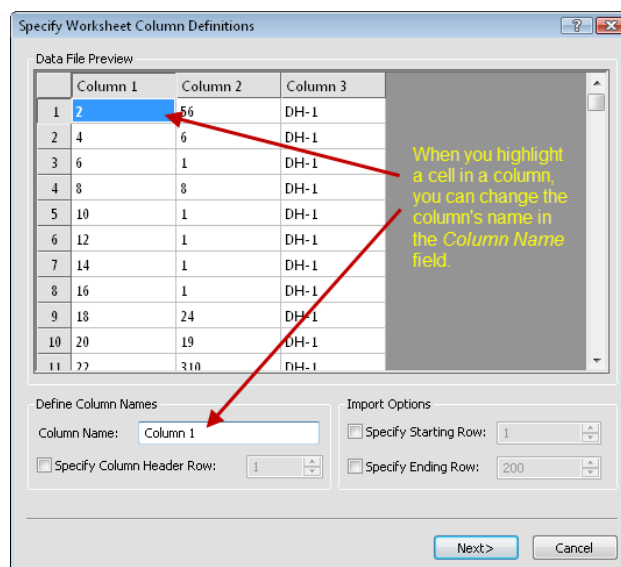

Figure 1.222 – The Specify Worksheet Column Definitions dialog allows you to name each column in an imported data table.
4. The *Specify Worksheet Column Definitions* dialog opens, fig. 1.222. Note the content of the *Column Name* field: